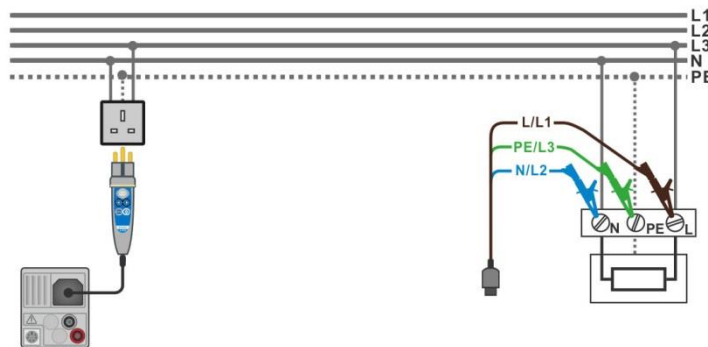

Figure 8.10: AUTO TN measurement
- › Connect test leads or Plug commander to the object under test, see **Figure 8.10**.